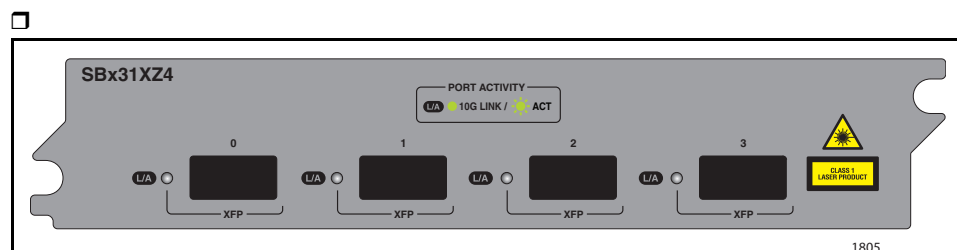
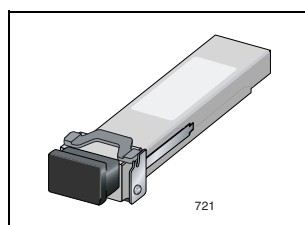

Figure 12 AT-SBx31XZ4 XFP Line Card
Figure 13 XFP Transceiver
- The AT-SBx31XZ4 XFP Line Card provides 10 GB Ethernet switching capability in the SwitchBlade x3112 Switch. Figure 12 shows the front view of the AT-SBx31XZ4 XFP Line Card. Four XFP transceiver slots are provided for fiber connections to your network. You can use these ports to connect high speed devices, such as servers, to your network or to create a high-speed backbone network between other switches and routers. Figure 13 shows an example of an XFP transceiver.